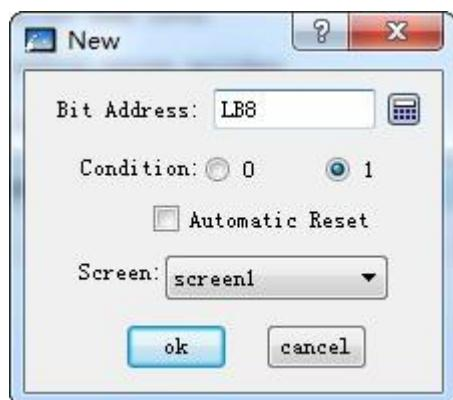

Figure 7-9 Create a new bit control screen switching dialog box
- Screen switch through Bit address: Double click the "New" line; a pop-up dialog box will appear as shown in Figure 7-9: